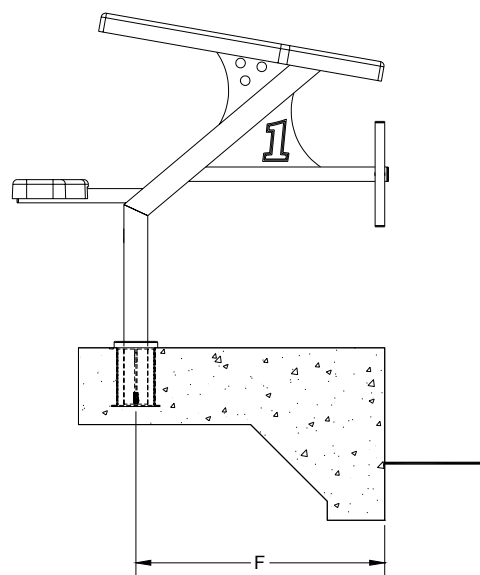

FIGURE 6
2. The setback for the anchor must be set using the correct distance "F" from the pool wall and with at least 6" from any control joint or edge of concrete slab. The correct setback distance depends on the model ordered. When the starting block is installed, the backstroke handles and leading edge of the footboard shall be flush with the pool wall. Refer to **FIGURES 6 & 7**.